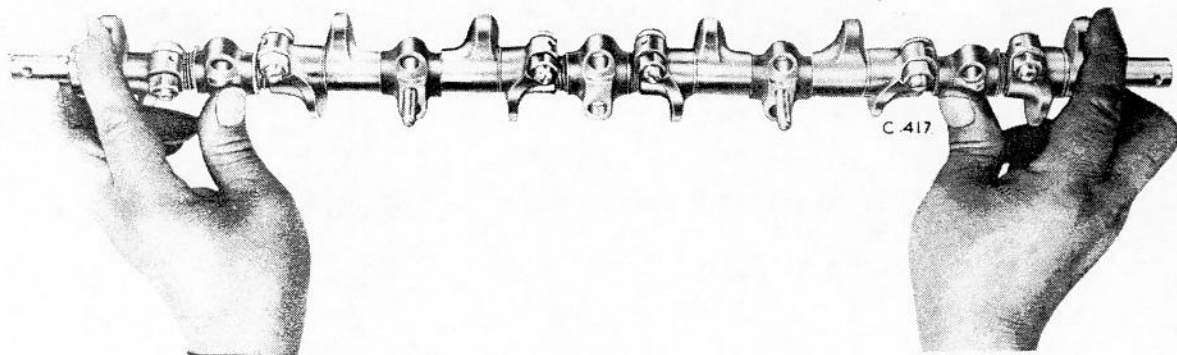

Fig. 25 Fitting inlet rocker spindle assembly (Stage 3)
3. Compress the springs by moving the two outer auxiliary rockers (at each end of the spindle) towards the centre, see Fig. 25.